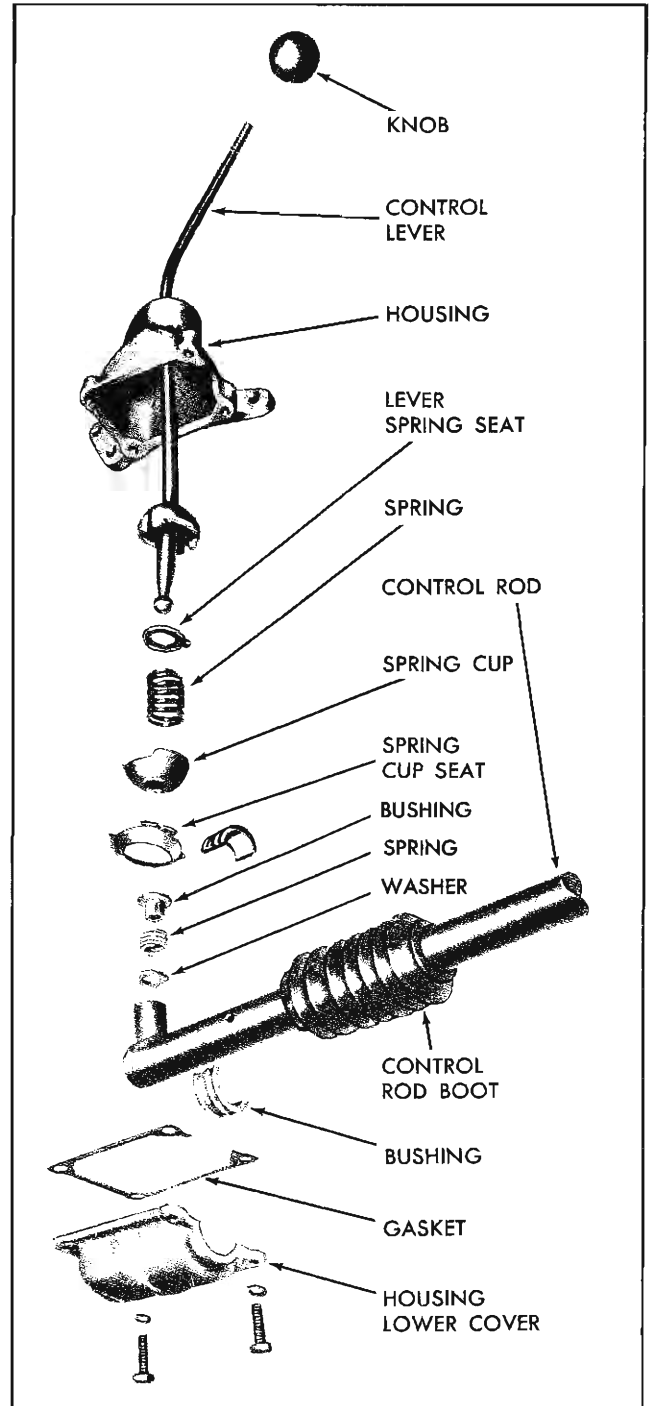

Fig. 7-9—Gearshift Lever and Housing
1. Remove housing lower cover bolts and washers (Fig. 7-9) and remove cover.
2. Lower transmission control rod and remove bushing, spring, and washer from socket (Fig. 7-9). Use wire to support front end of control rod at a convenient height.
8. Install washer, spring, and bushing into control rod socket (Fig. 7-9).